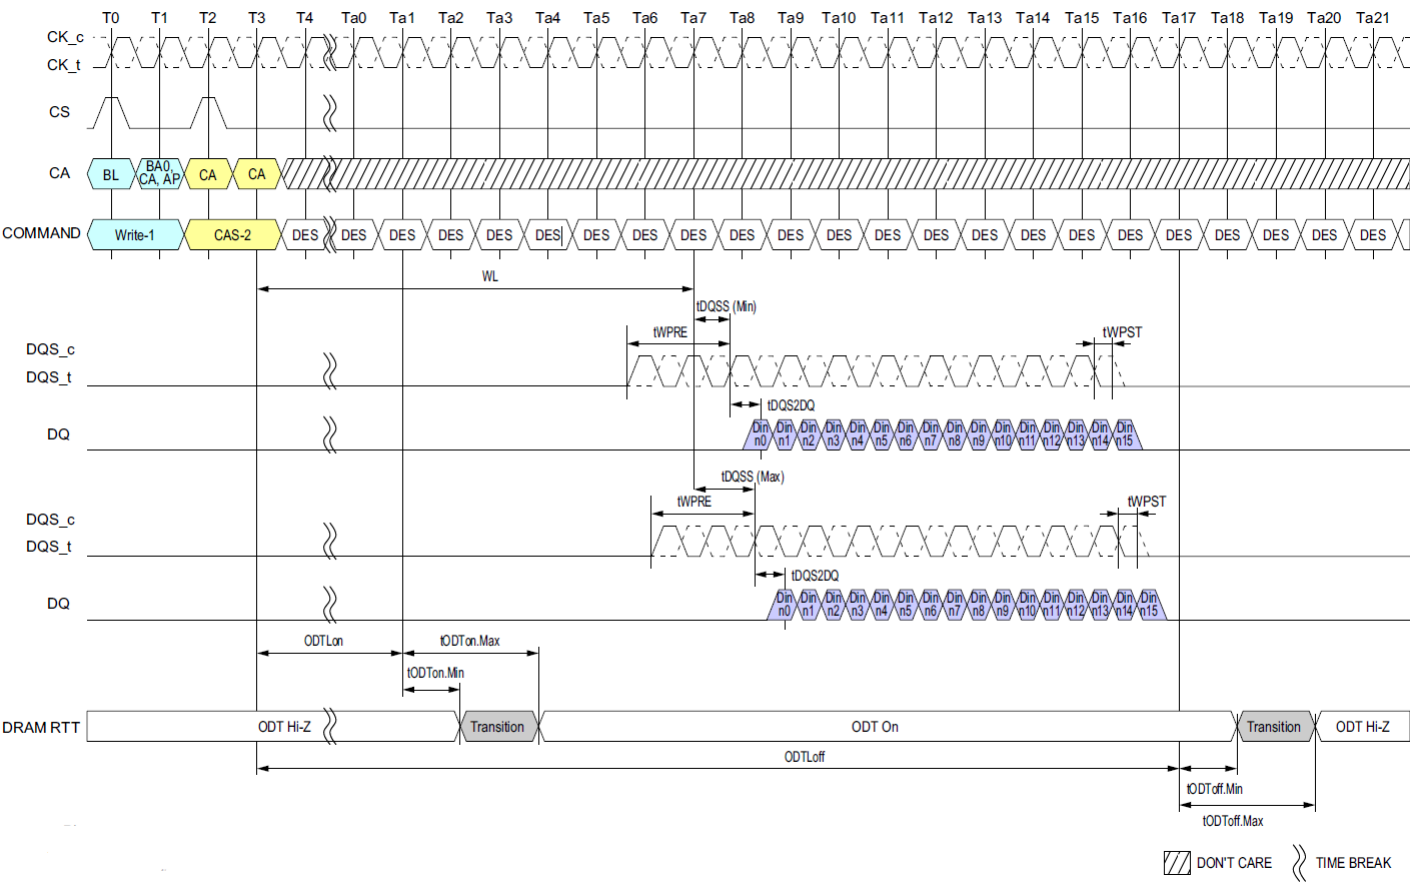

Figure 119: Asynchronous ODTon/ODToff Timing
1) ODTLon is referenced from CAS-2 command. See Figure 119.